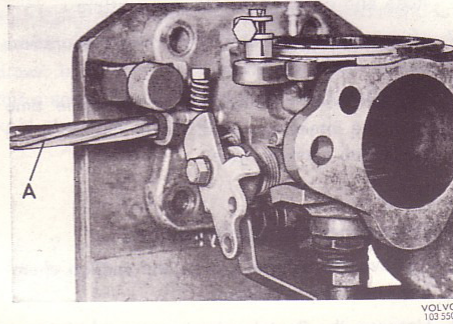

Fig. 22. Reaming of bush
5. Turn the fixture stud a further 90° and ream the newly fitted bush with reamer SVO 2401, Fig. 22.